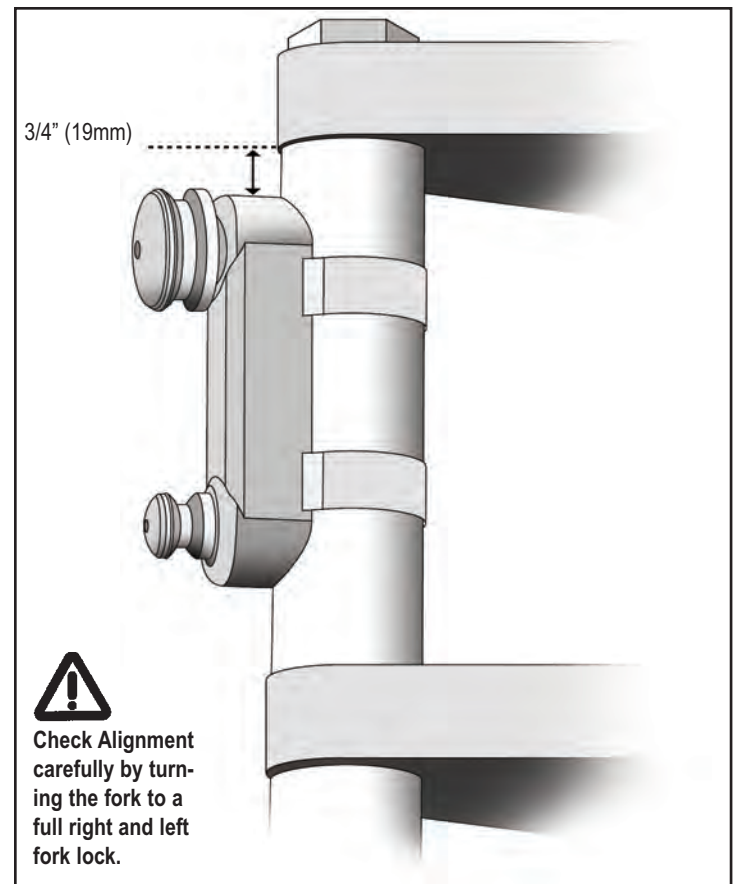

Figure 3.
11. Adjust top edge of Mount Cup to be 3/4" (19mm) from the upper triple clamp. **See Figure 3.**